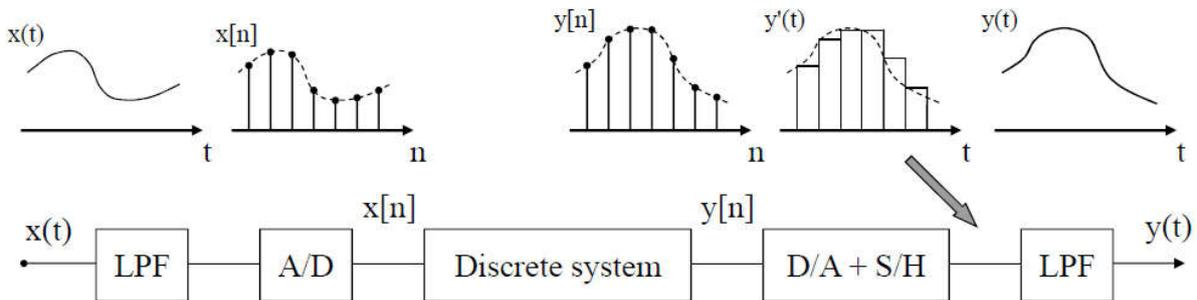

Figure 4: Complete sampling and reconstruction chain implemented on the STM32F746G board.
**Question 4:** the STM32F746G board implements the block diagram illustrated in Figure 4 and that has been discussed in one of the recent FPS lectures. What simplification in this block diagram does the above `stm32f7_loop_intr.c` code enforce ?